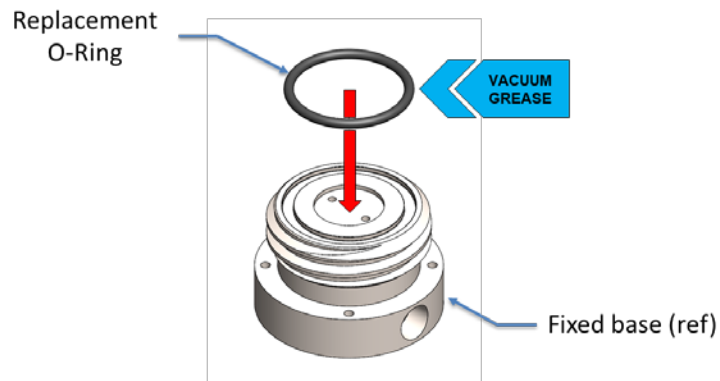

Figure 7, O-ring installation
4. Lightly grease the replacement O-ring with silicon vacuum grease. (Note: New O-rings are pre-greased at the factory) Install greased O-ring groove on end cap. Make sure O-ring is properly seated refer to Figure 7.